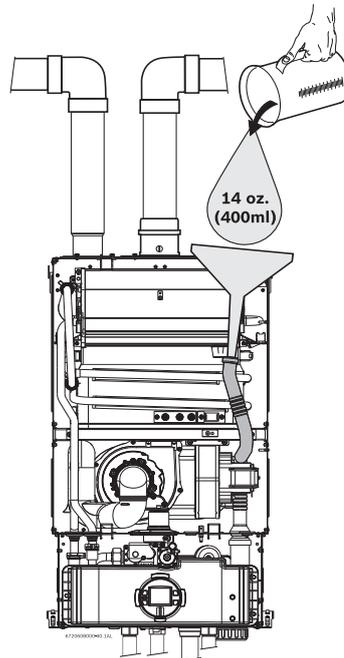

Fig. 32 Filling the condensate trap after installation
- ▶ Fill the condensate trap by pouring approximately 14 oz. (400ml) of water into the top of the drain tube. To avoid damage to the appliance use a funnel in this operation, see Fig. 32, page 28.